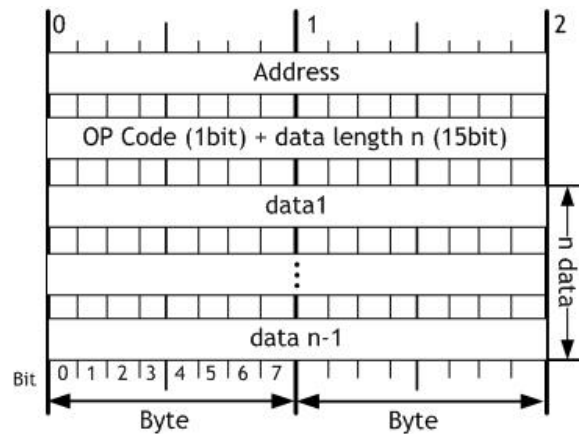
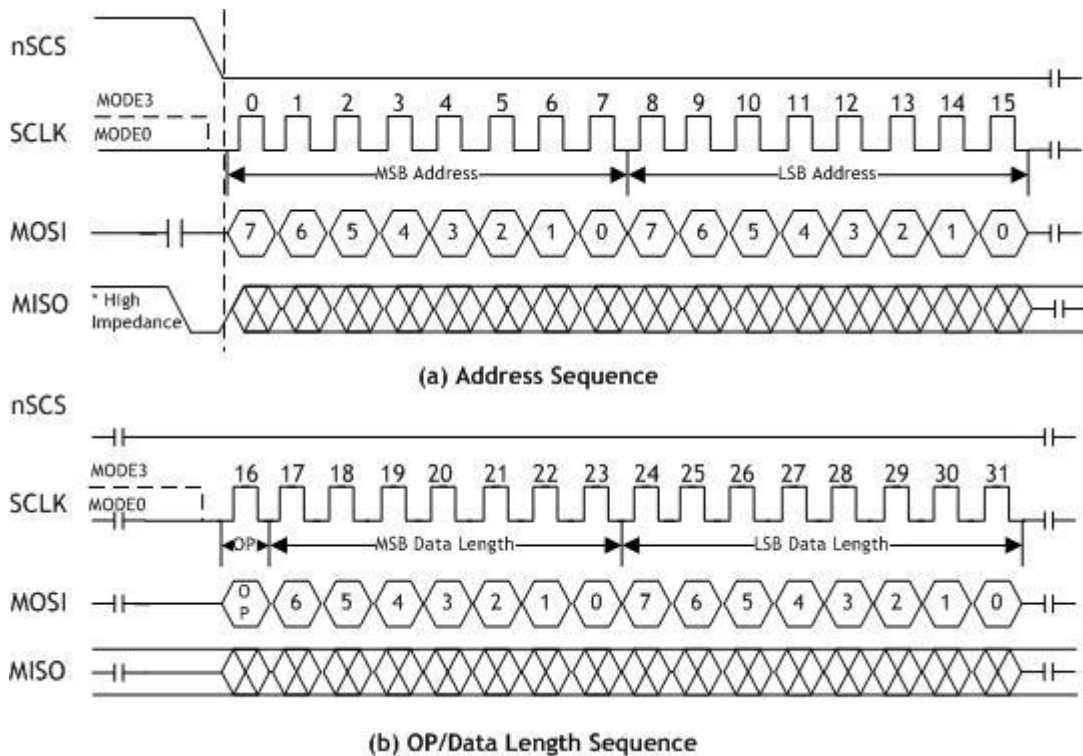

Figure 19 W5200 SPI Frame Format
Figure 20 Address and OP/DATA Length Sequence Diagram
The READ Processing Sequence Diagram is shown in Figure 20. The READ processing is entered by driving nSCS low, followed by the Address, the OP code, the Data Length and the Dummy data byte on MOSI. And then W5200 read the data byte on MISO. The Address, the OP/Data Length Sequence Diagram and the Data are shown in Figure 19. The OP code (OP) is defined type of the READ OP and WRITE OP. On OP = 0, the read operation is selected. Otherwise, On OP = 1, the write operation is selected.